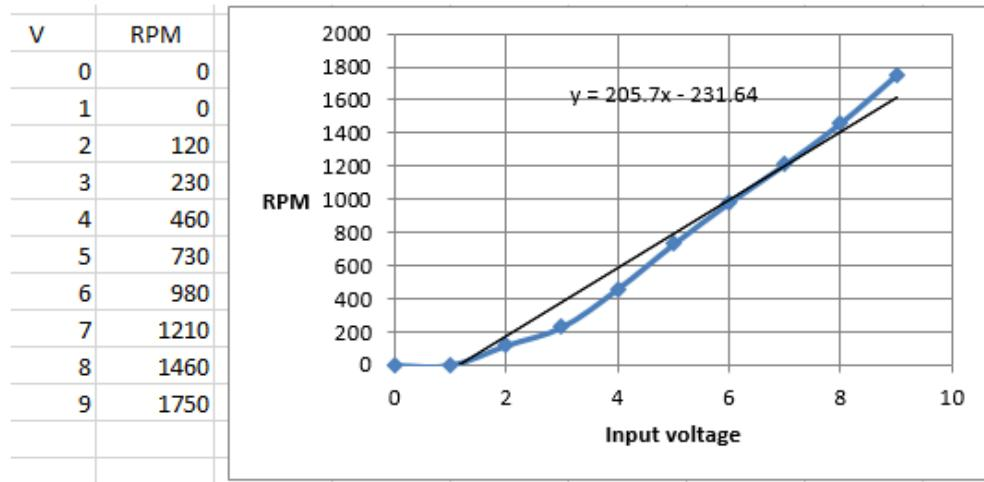

Figure 3-36 Typical DC motor static performance analysis
Mount and load the motor as it will be used. Then apply a low voltage and record the speed once it has stabilized. Repeat this process across the range of the motor. An example tabulation is shown in Figure 3-36. Notice that it is typical for the motor not to start until there is 10% to 20% of the maximum voltage applied. This produces the nonlinearity and the offset shown in the scatter plot.
- Setup and solve the differential equation for the motor whose parameters were developed in Figure 3-36 and 3-37. Apply the same initial conditions and voltage step as shown in Figure 3-37.
The other end point of the step is at 1200 RPM. From Figure 3-36, the trendline linear approximation starts at 0 RPM, 1 V and reaches 1200 RPM at 7 V. So the *step* height is